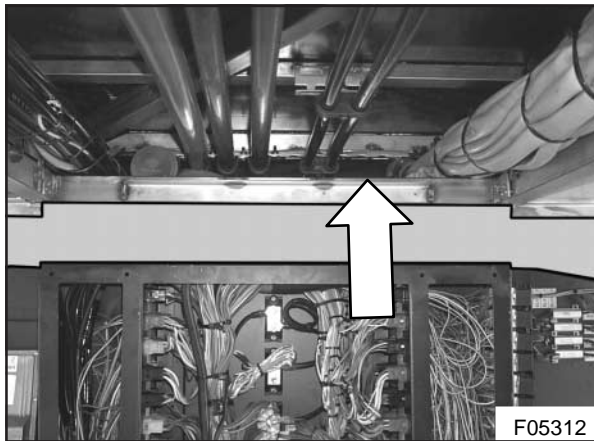
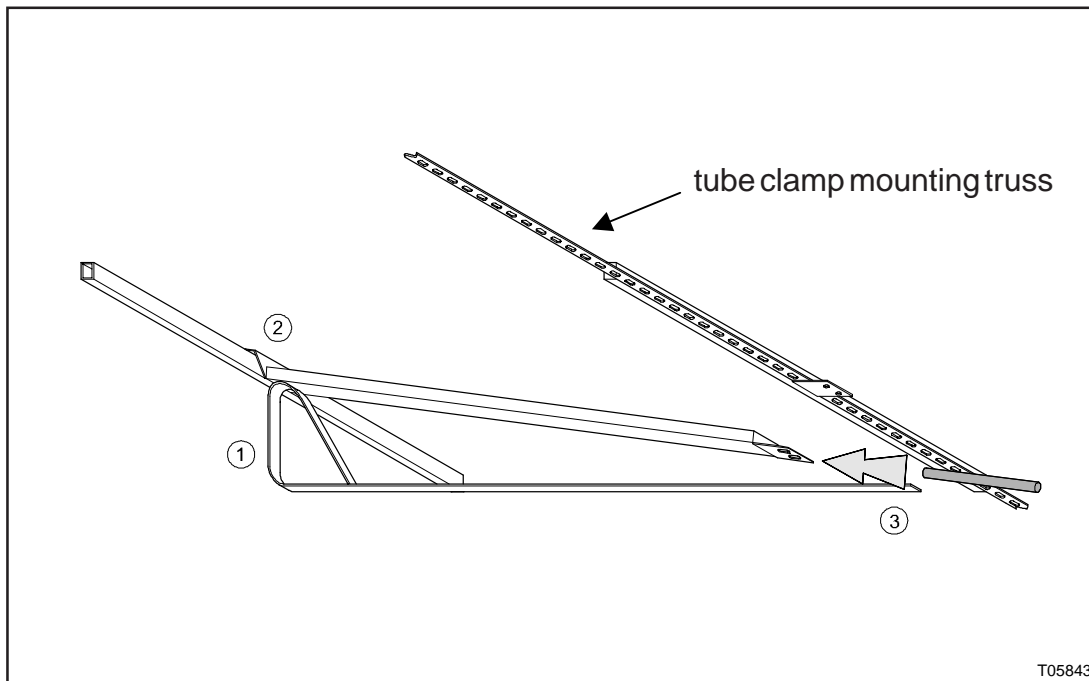

Figure 5 : Access opening to fuel tank compartment
Figure 6 : Fuel tank compartment frame reinforcement brace installation, sequence I
4. Insert the guiding tool in the gap between the hydraulic steering system lines and the wire harness (see Figure 5) and let it rest against the foremost chassis cross member as shown in 1, Figure 6. Have someone assist with a drop light and try to install the tool as close as practicable to the coach center line.
5. Slip reinforcement brace VH 10726402 as shown in 2, Figure 6 on top of the guiding tool with the small angle bracket foremost, and position the lip of the bracket against the dividing line between the cross member and passenger compartment floor.
6. Using a hammer and the specially supplied drift shown in 3, Figure 6, drive the lip of the angle bracket between the crossmember and the floor, until the bracket is fully seated.